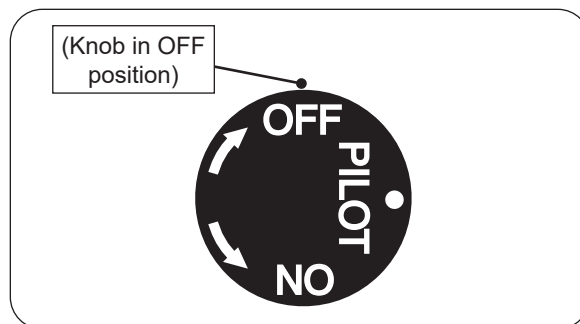

Fig. 29-2 Pilot shut down
2. Locate the valve on the side of the unit. Push in the gas control knob slightly and turn clockwise to **OFF** (see Fig. 29-2).
Push in the control knob slightly and turn clockwise to **OFF**. Do not force. See Fig. 29-2.